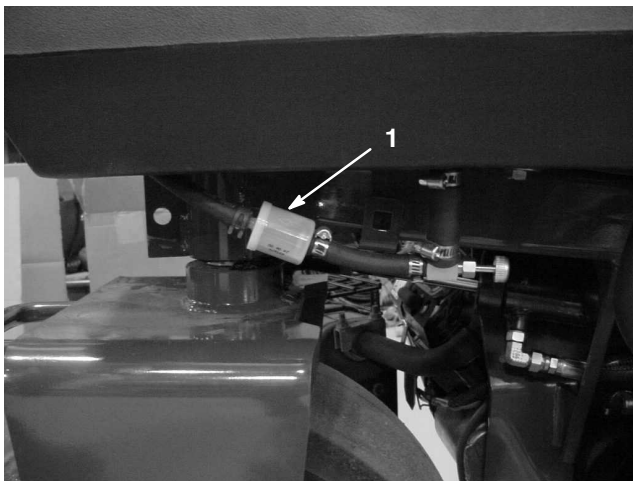

Figure 51
An in-line filter is incorporated into the fuel line between the fuel tank and carburetor (Fig. 51). Replace the filter every 800 hours or sooner if the fuel flow is restricted. Be sure the arrow on the filter is pointing away from the fuel tank.
1. Close the fuel shut off valve, loosen the hose clamp (Fig. 51) on the carburetor side of filter and remove the fuel line from the filter.
2. Place a drain pan under the filter, loosen the remaining hose clamp, and remove the filter (Fig. 51).